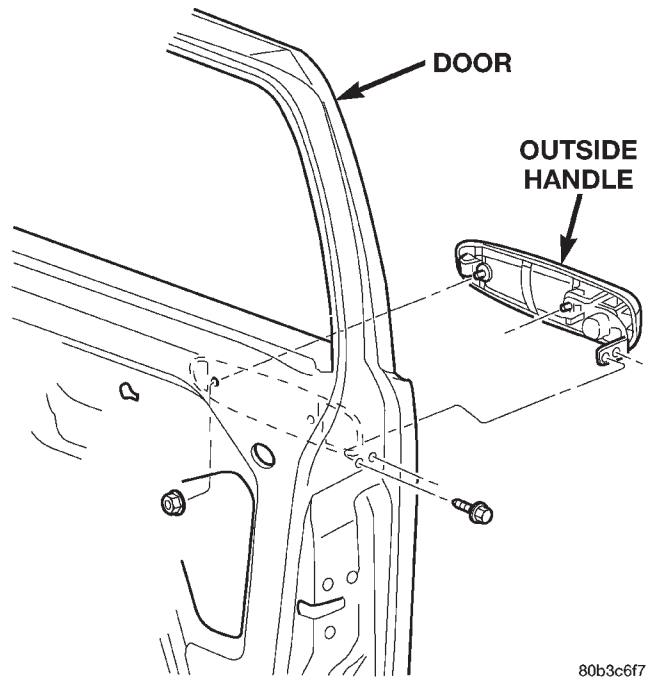

Fig. 20 Front Door Outside Handle
- (5) Disconnect outside handle to latch rod
- (6) Remove fasteners attaching outside handle to door (Fig. 20).
- (7) Remove outside handle from door.
- (8) Disconnect anti-theft harness connector, if equipped.
- (9) Separate outside handle from vehicle.